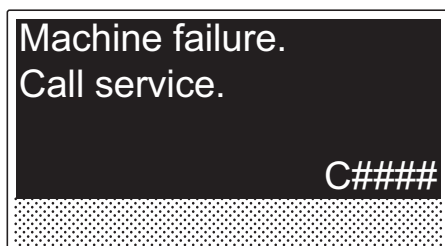

Figure 1-4-2
*: Refer to figure 1-4-2 for paper jam location (see page 1-4-1)